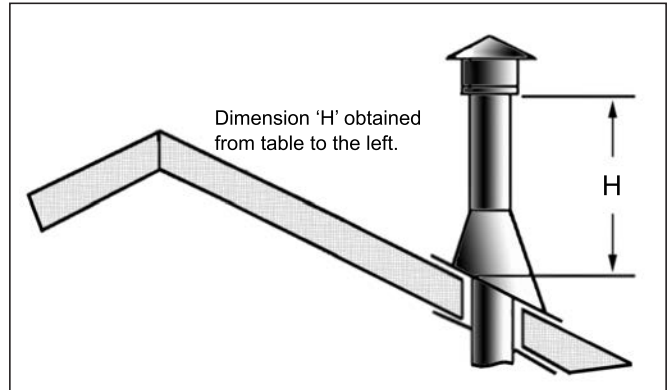

Figure 44: Height of Vertical Termination;
Step 7. Continue to add Pipe Sections until the height of the Vent Cap meets the minimum building code requirements described by your local codes. In the absence of local codes, make sure the terminal is 2 feet (610mm) above anything within 10 feet (3046mm) of the vent (refer to Figure 44 & Table 5 for clearances for different pitches). Note that for steep roof pitches, the vent height must be increased. In high wind conditions, nearby trees, adjoining rooflines, steep pitched roofs, and other similar factors can result in poor draft, or down-drafting. In these cases, increasing the vent height may solve this problem.
Table 5: Minimum 'H' for Figure 44.